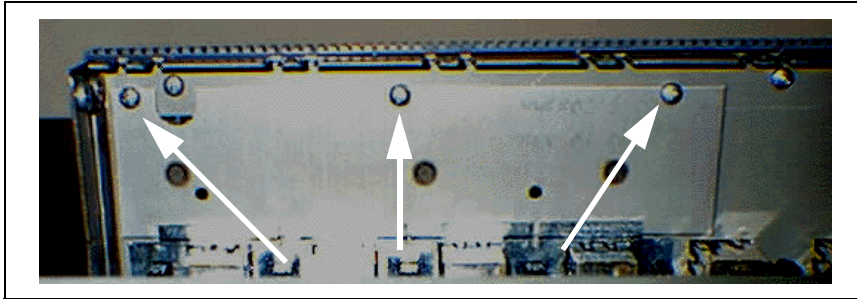

Figure C.2 - Remove the Three Retaining Screws
- a. Using a Phillips screwdriver, remove and retain the three screws on the back of the blank faceplate inside the front of the switch as shown in Figure C.2. These screws secure the blank faceplate in Interface D. Keep these screws as you will need them to secure the PEM once you have installed it.